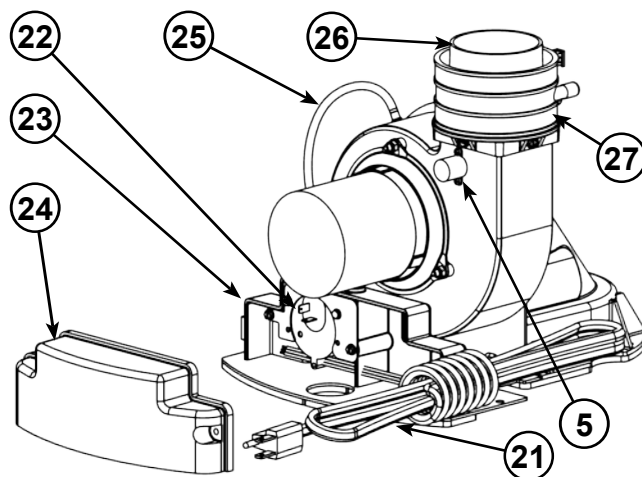

Figure 51.
- 5 Blower High Limit Switch (see Figure 6) (see also Figure 51)
- 21 Blower with Power Cord (see also Figure 6) (see also Figure 51)
- 22 Air Switch (inside box) (see Figure 6) (see also Figure 51)
- 23 Junction Box (see Figure 6) (see also Figure 51)
- 24 Junction Box Cover (see Figure 6) (see also Figure 51)
- 25 Air Tubing (see Figure 6) (see also Figure 51)
- 26 Rubber Coupling (see also Figure 6) (see also Figure 51)
- 27 Gear Clamp (see also Figure 6) (see also Figure 51)